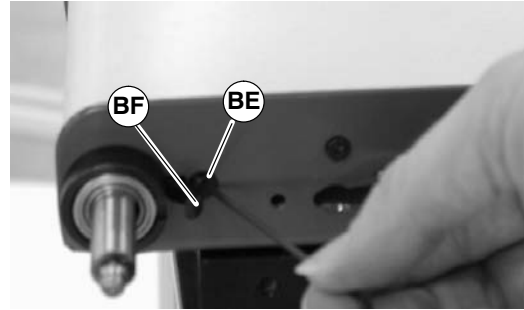

Figure 24
2. Loosen but do not remove screw (BE of Figure 24). Push until pulley retaining sleeve clip (BF) pushes out.
7. Push outboard drive shaft (AQ) through outboard bearing retaining sleeve (AR).